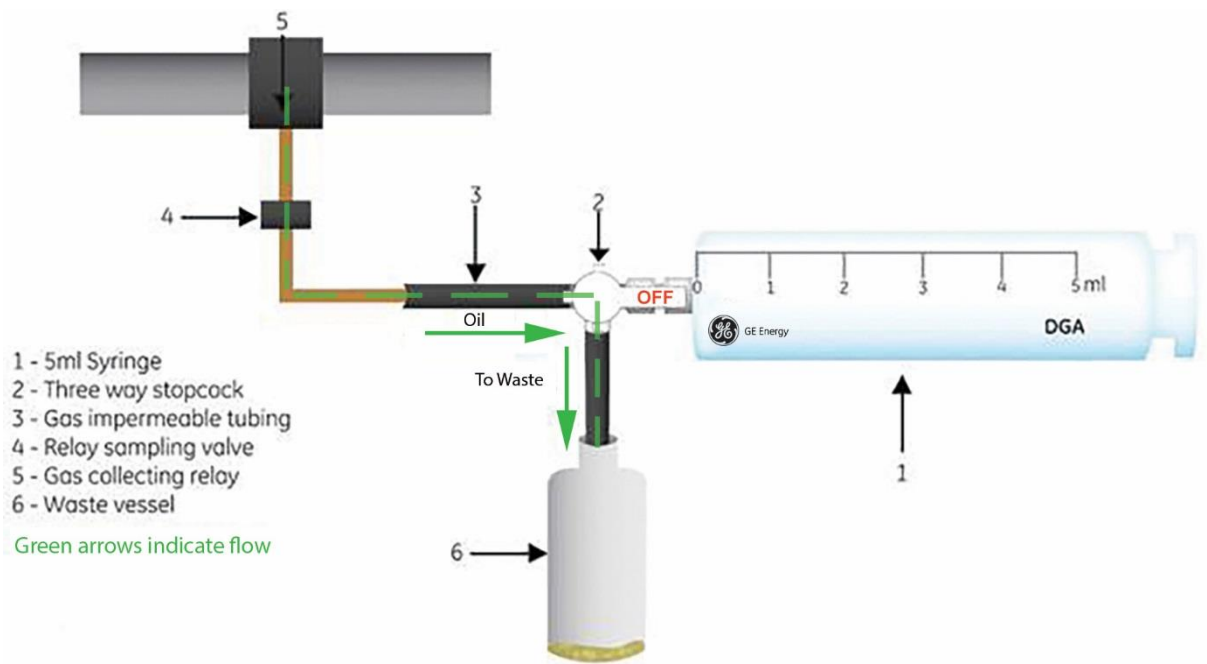

Figure 9-1: Oil flows to waste container
1. Connect the Buchholz sampling point to the stopcock (2) of the syringe using the supplied plastic tube as shown in Figure 9-1.
2. Allow any oil in the sampling tube to run to waste (6) as shown in Figure 9-1.